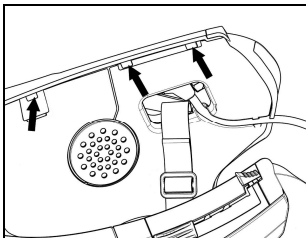

Fig. 10
- Reposition the plastic lining of the cheek padding, arranging it behind the two small stop hooks (Fig. 10).